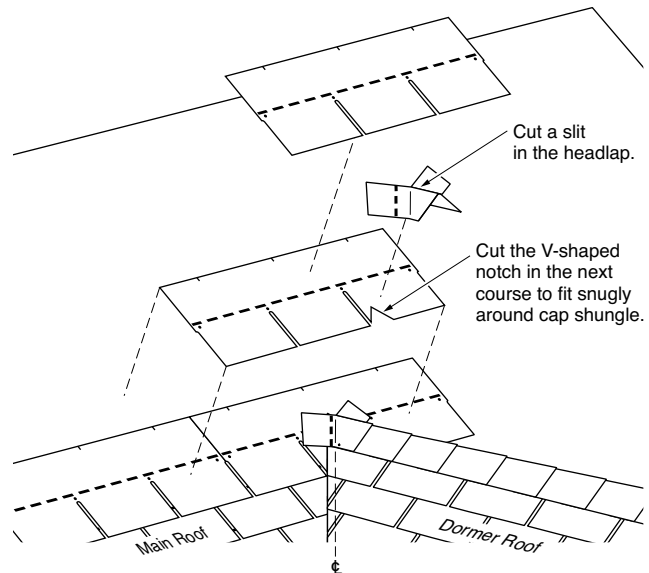

Figure 9-10: "Exploded" view of the entire assembly where the dormer ridge meets the main roof.
- The slit in the ridge cap must be covered completely by the shingle over it in the next course. If cutouts or butt joints are closer than 4" to the slit, a scrap piece of shingle at least 8" wide by 12" high should be installed over the cut before the full shingle is applied (Figure 9-10).